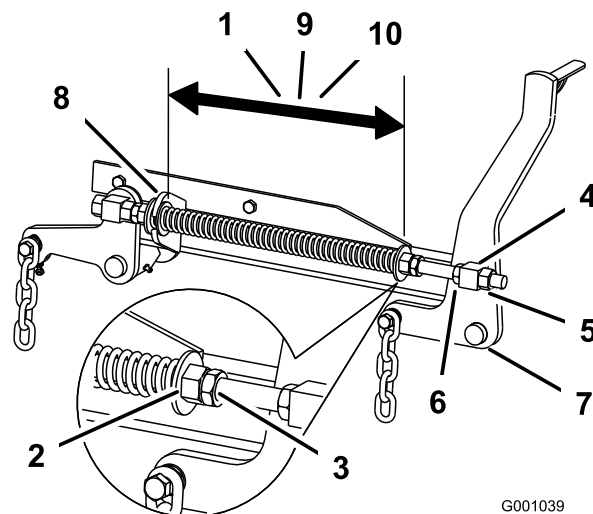

Figure 71
- Check the distance between the two large washers, it needs to be 11-1/8 inches (28.2 cm) for 52 inch mower decks, 10-1/2 inches (26.7 cm) for 60 inch mower decks or 11-1/2 inches (29.2 cm) for 72 inch mower decks (Figure 71).
- Adjust this distance, by loosening the spring jam nut and turning the nut in front of each spring (Figure 71). Turning the nut clockwise will shorten the spring; counter-clockwise will lengthen the spring.
- Lock the nut into position by tightening the spring jam nut (Figure 71).